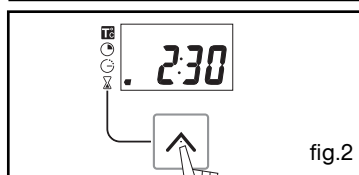

fig.2
- Press the “^” button to confirm or wait a few seconds (fig.2).